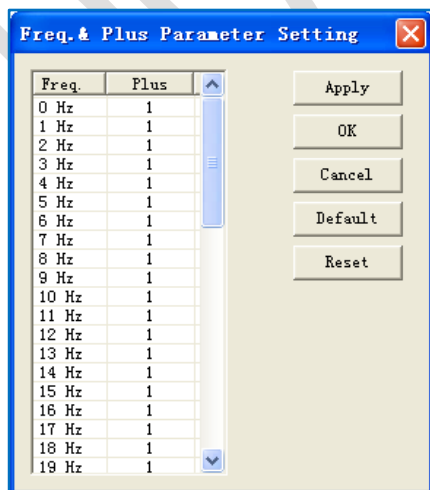

Fig 4-18 Frequency Gain Parameter Setup
- vi. Click "Frequency Gain Parameter Setup" to bring up a dialog box to set the gain for each frequency point. As shown in Fig 4-18.